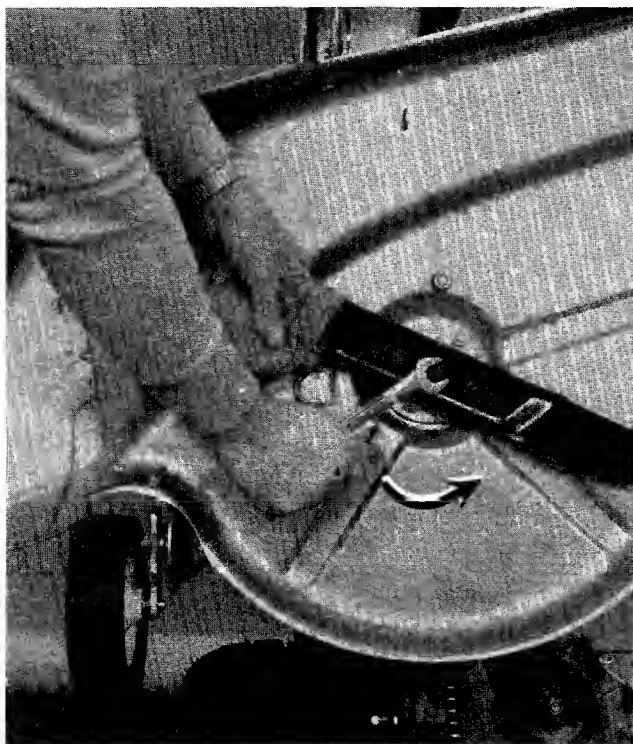

Figure 25
2. Remove the blade and adapter from the blade spindle. (See figure 25.)